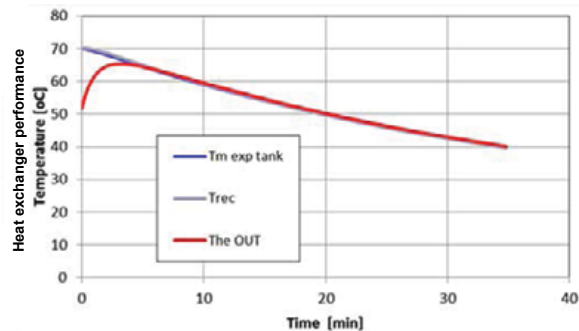

Figure 3
- Almost zero deviation between charging and supply temperature ($\Delta T = 1$) (figure 3)